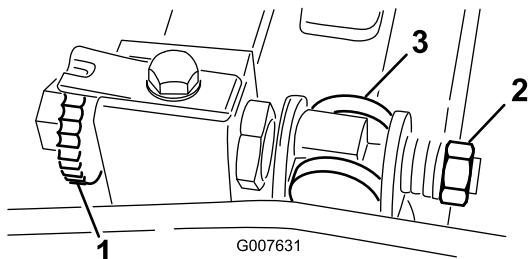

Figure 55
- Turn the bedbar-adjuster screw counterclockwise to back the bedknife away from the reel (Figure 55).
- Back out the spring-tension nut until the washer is no longer tensioned against the bedbar (Figure 55).